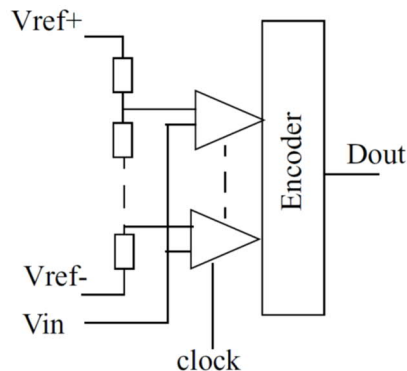
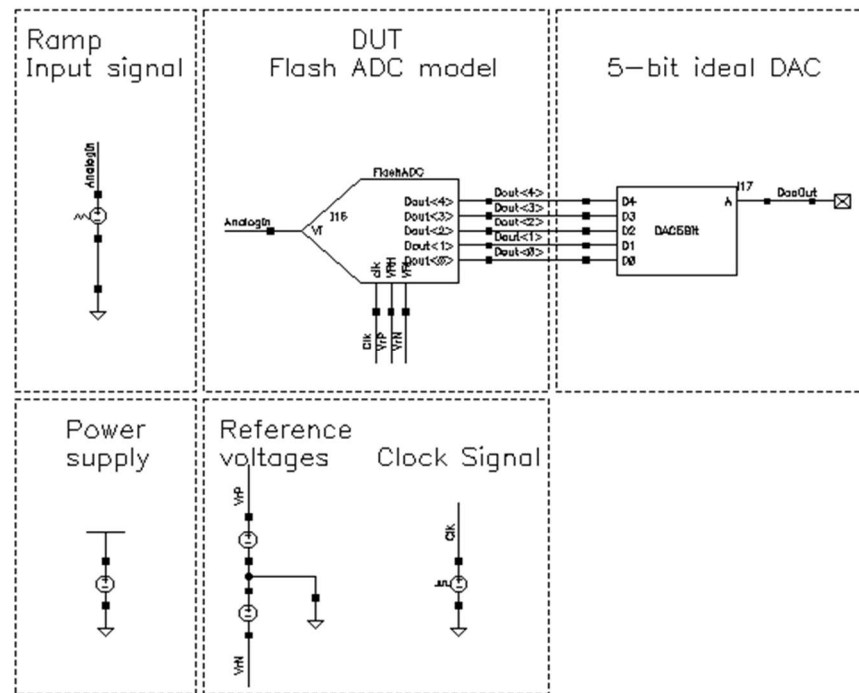

Figure 1. Flash ADC.
Figure 5. The flash ADC test-bench schematic view, FlashADCTb.
A flash ADC consists of 3 major building blocks: a reference voltage generator, a number of comparators, and a thermometer-to-binary (or 2's complement) encoder. Every clock cycle, the input signal V_{in} is compared to the reference voltages. By calculating the number of ones at the comparator outputs, the digital word corresponding to the analog input is encoded. A simplified block view is shown in Figure 1.
- b. You are going to use a ramp signal as ADC input, to perform a (quite primitive) test on missing codes for the flash ADC. Every quantization level should be exercised exactly once, if the ADC has no missing codes. The test setup is arranged so that the input signal is sampled when the input signal is exactly between two quantization levels (there is a 1/2 LSB offset on the input). In this test, the difference between the output signal and input signal should never be more than 1 LSB (if the offset is removed). It should be noted that this test only guarantees no missing codes. For the actual linearity and noise performance, dynamic testing techniques should be used (which is done later in this assignment). However, thanks to the low complexity of this testing technique, it is a good sanity check even for schematic-level models of ADCs. Use the ramp input specified in the test bench schematic. Let the logic levels be **0V** and **1.2V**, and the input signal between **±500mV**. The top and bottom reference voltages to the resistor ladder should have the same peak signal range as the input signal (see Figure 1). The test bench should look something like Figure 5. Save and close the test bench schematic.